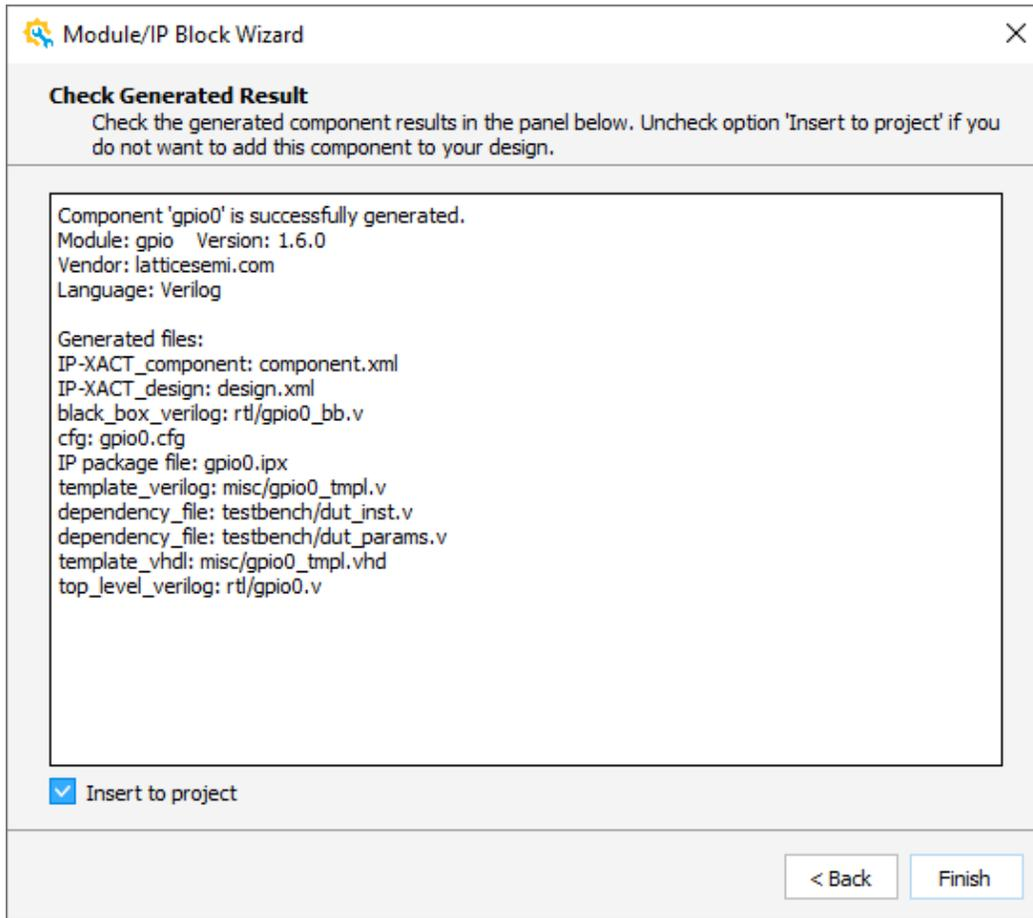
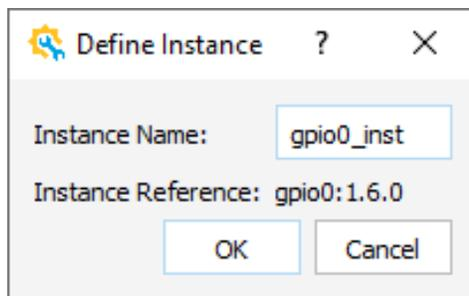

Figure 2.19. Module/IP Block Wizard - Check Generated Result
Figure 2.20. Design Instance Dialog Box
- Click **Generate**. Module/IP Block wizard shows the Check Generated Result page (Figure 2.19).
- Select **Insert to project** (Figure 2.19) at the bottom of the Check Generate Result wizard, so that a **Define Instance** dialog box pops up as shown in next step. Or, this dialog box does not appear.
- After selecting **Insert to project**, click **Finish** (Figure 2.19). The **Define Instance** dialog box opens (Figure 2.20).